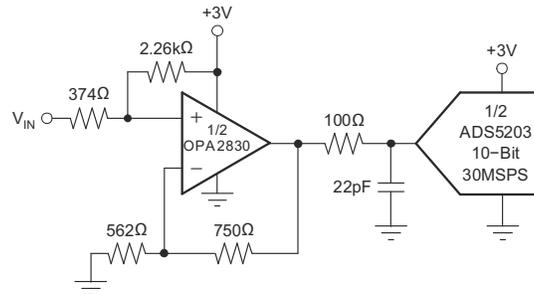
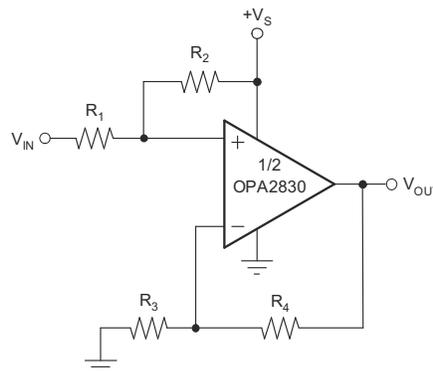

Figure 8-4. DC-Coupled, 3V ADC Driver
Figure 8-5. DC Level Shifting
The ADC interface of Figure 8-4 shows a dc-coupled, single-supply ADC driver circuit. Many systems are now requiring 3V to 5V supply capability of both the ADC and ADC driver. The OPA2830 provides excellent performance in this demanding application. The large input and output voltage ranges and low distortion support converters, such as the ADS5203 in the figure on page 1. The input level-shifting circuitry is designed so that V_{IN} can be between 0V and 0.5V, while delivering an output voltage of 1V to 2V for the ADS5203.
Figure 8-5 shows the general form of Figure 8-4 as a dc-coupled noninverting amplifier that level-shifts the input up to accommodate the desired output voltage range. Given the desired signal gain (G), and the amount V_{OUT} must be shifted up (ΔV_{OUT}) when V_{IN} is at the center of the range, the following equations give the resistor values that produce the desired performance. Assume that R_4 is between 200Ω and 1.5kΩ.
The circuit of Figure 8-4 is a good example of this type of application. The circuit designed to take V_{IN} between 0V and 0.5V and produce V_{OUT} between 1V and 2V when using a 3V supply. This means $G = 2.00$, and $\Delta V_{OUT} = 1.50V - G \times 0.25V = 1.00V$. Plugging these values into the previous equations (with $R_4 = 750\Omega$) gives: $NG =$
2.33, $R_1 = 375\Omega$, $R_2 = 2.25k\Omega$, and $R_3 = 563\Omega$. The resistors were changed to the nearest standard values for the circuit of Figure 8-4.